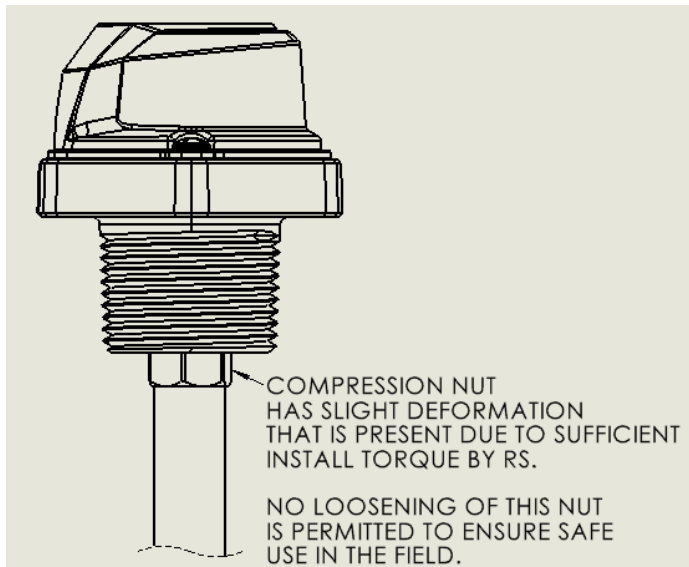

Figure 2: Compression Nut Condition Due to Rochester' Assembly Process with Warning of Its Loosening
4. Figure 2 below notes the condition of the as supplied probe and its compression nut condition. The compression nut shall not be tampered with in any way to ensure safe use in the field.